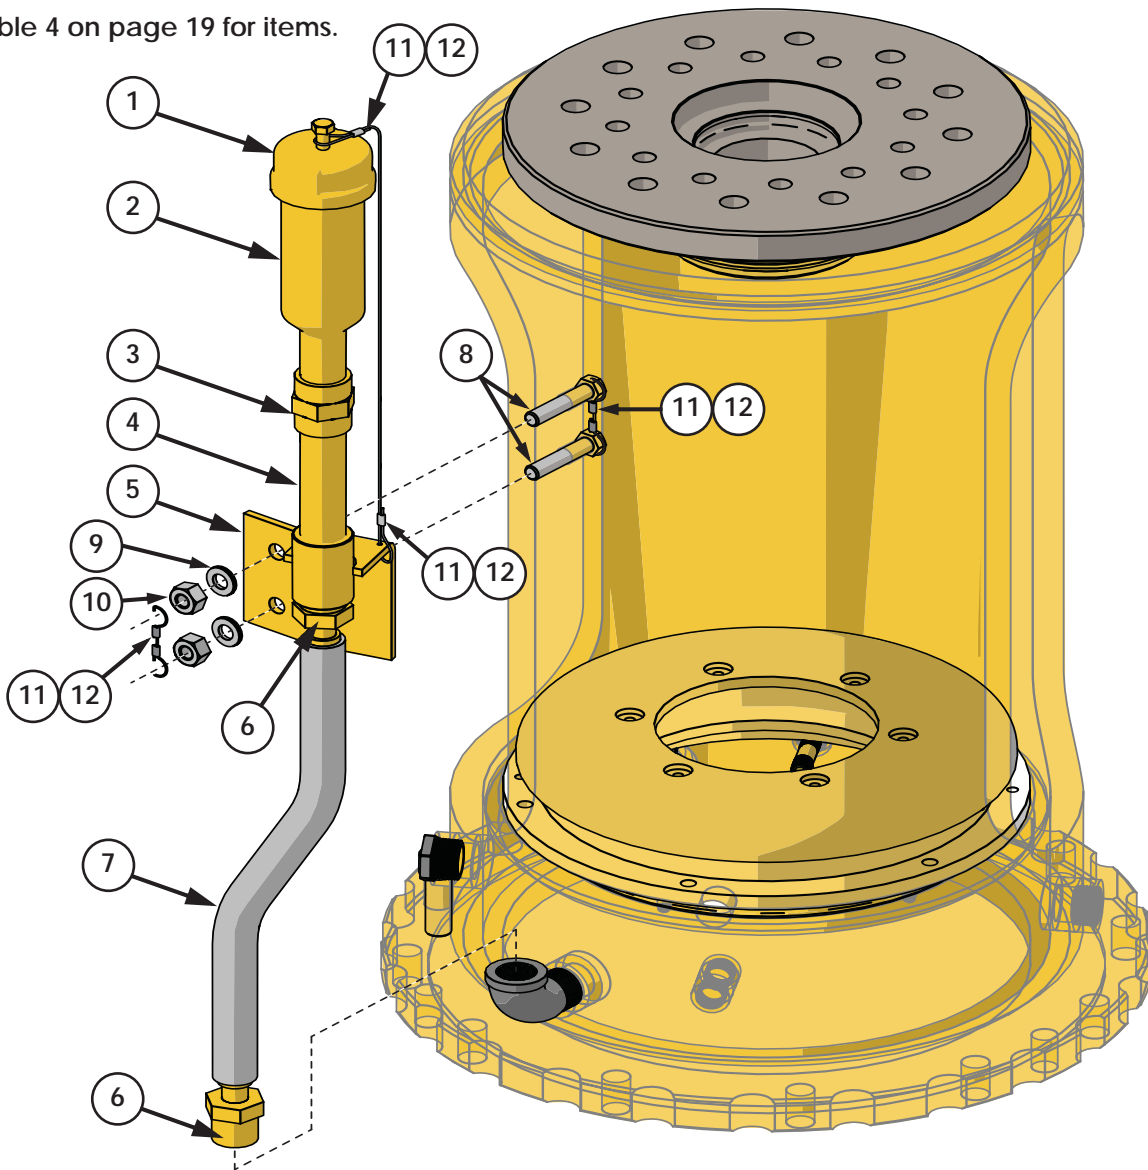

Figure 15: Pre-assembly of the Oil Fill Assembly
3. Assemble the following items together, see Figure 15 and Table 4 on page 19:
4. Add safety restraint to item 1 (692-44-0) Cap by wrapping item 11 (M21-2000-010) Wire Rope around the welded fastener on the top of item 1 (694-44-0) Cap and crimp with item 12 (M19-3006-010) Ferrule. Also route item 11 (M21-2000-010) Wire Rope through the hole in item 5 (DT36151) Oil fill Extender Mount and crimp with item 12 (M19-3006-010) Ferrule as shown on Figure 15 on page 18.
Note: Ensure item 11 (M21-2000-010) Wire Rope is tightly wrapped around the welded fastener on item 1 (692-44-0) Cap. Also allow for enough slack in item 11 (M21-2000-010) Wire Rope for item 1 (692-44-0) Cap to be unscrewed for filling of oil as shown on Figure 15 on page 18.
- a. Install item 5 (DT36151) Oil Fill Extender Mount using a quantity of 2 item 8 (DT33888) Capscrews, item 9 (LW-0500-NL) Lockwashers, and item 10 (LN-0500NC-GR8) Locknuts.
- b. Torque item 8 (DT33888) Capscrews which are 1/2-13UNC to 99 ft-lbs.
- c. Add retaining wire (item 11, M21-2000-010, 1/16" Wire Rope) to the fasteners through heads and shank of item 8 (DT33888) Capscrews and crimp with item 12 (M19-3006-010) 1/16" Ferrules. See Figure 15 on page 18.